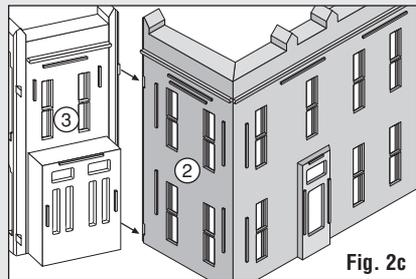

Fig. 2c
- Align tabs on Wall ③ with notches on Wall ② and glue in place (**Fig. 2c**).